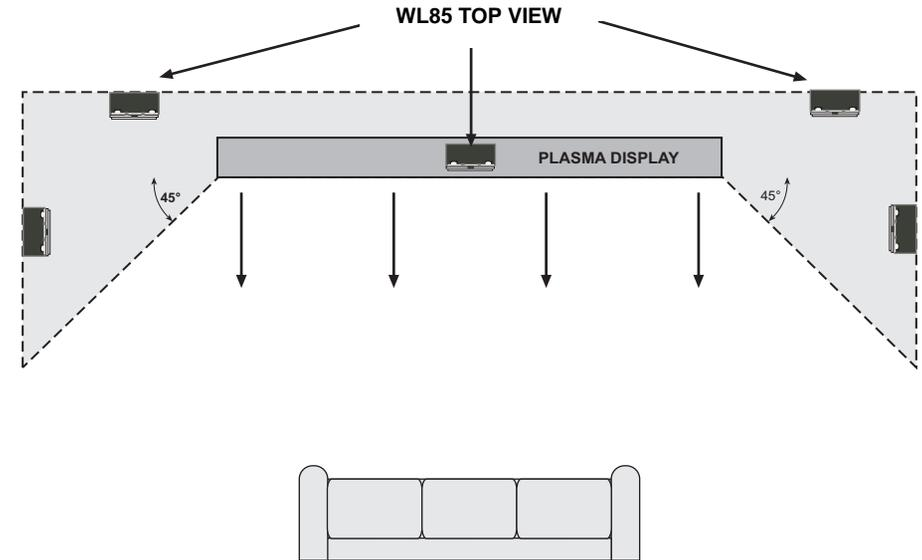

Figure 2 – WL series Placement
Placement of the IR Receiver does matter when used in the presence of a Plasma Display. Ideally it should be placed somewhere around the Display with the front of the receiver flush with the front of (or set back from) the Display. If the WL85 needs to be placed in front of the display (such as on an adjacent side wall perpendicular to the display), make sure it is placed at a location at least 45 degrees off axis from the corners of the unit – see **Figure 2**. The presence of Direct Sunlight and Fluorescent Lighting should not affect the reception of this unit.
Note: If using the STATUS LED feature, use 4-conductor cable in the appropriate gauge (see Figure 2)
2. Connect proper wires to the +12VDC, GND, STATUS (if applicable), and IR OUT terminals on the rear of the WL85 as shown in **Figure 2**.